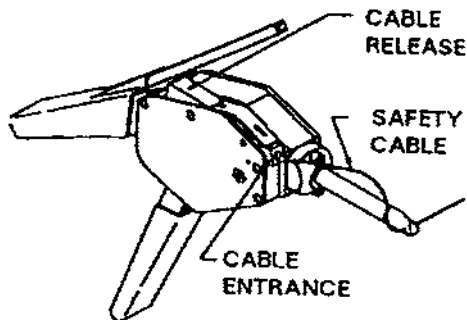

Figure 7-23. Pre-set Tension Safety Cable Application Tool
(2) Securely join the parts to be soldered before any soldering is done.
(3) As shown in figure 7-23, hold the soldering iron beneath the splice being soldered with as much mechanical contact as possible to permit maximum heat transfer.
(4) Apply the solder, Federal Specification QQ-S-571, to the splice.
a. Pre-Set Tension Tool (Figure 7-23.) Insert the free end of the cable into the cable entrance and continue to push the cable into the cavity. When the free end of the cable appears at the bottom of the tool, grip the cable and pull the slack from the cable by repeatedly closing the tool handle allowing the handle to open fully before closing again. When all slack is removed from the cable, snug the tool against the fastener by using several short strokes of the handle. Release the handle to the full open position and fully close the handle to crimp securely and cut flush.